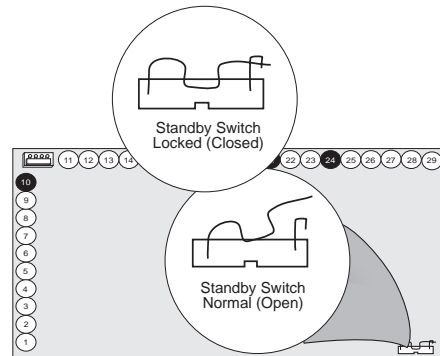

Figure 9: Standby Switch
**If you're programming from the keypad or using the D5200, make sure the Standby Switch is locked down. See Figure 9.**
When you're finished programming move the Standby Switch to the normal position. See Figure 9. The panel sends a RE-BOOT report to the receiver and the panel returns to the disarmed state. If you programmed for test reports and left the hours and minutes to next report prompts at 0 (zero), the panel sends a test report with the RE-BOOT report.